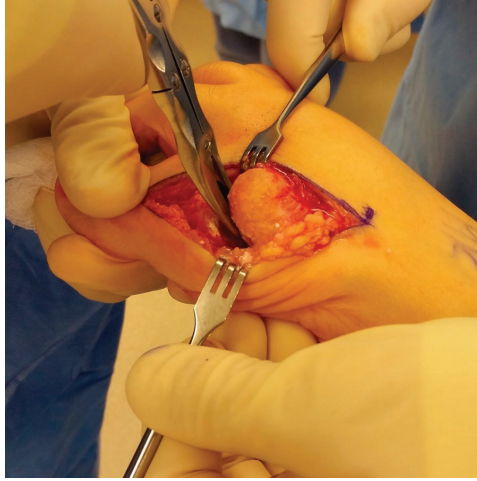

Fig.2A
- 2.1** Denude all cartilage surfaces with a rongeur or using your preferred alternative method (**Figs.2A & 2B**). Ensure that all articular cartilage is removed from the distal phalanx and proximal metatarsal head, until healthy bleeding subchondral bone is exposed with conforming bone surfaces.